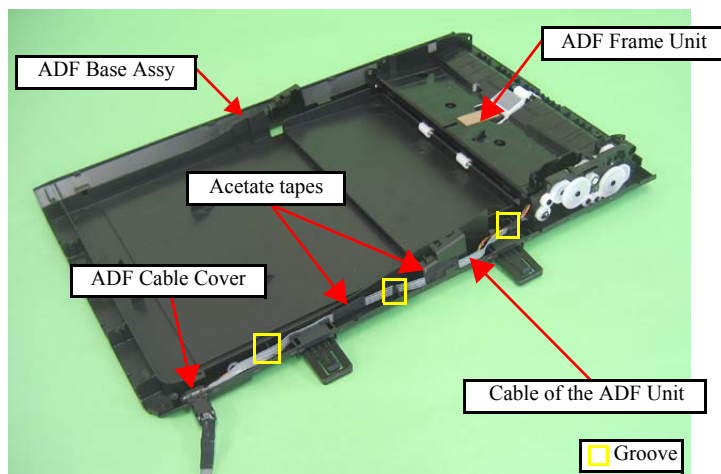

Figure 4-191. Removing the ADF Frame Unit (1)
- Route the ADF Motor cable, ADF Sensor cable, and the Grounding Wire as follows, referring to Fig. 4-191.